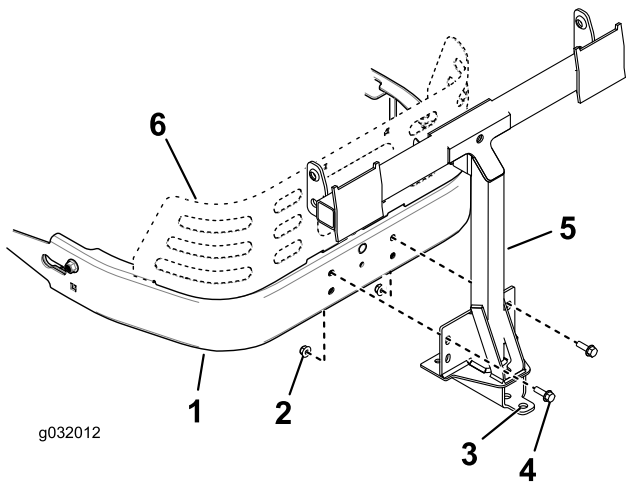

Figure 6
1. Install the pivot frame to the machine frame as shown in Figure 6. Secure the pivot frame to the machine frame using 2 bolts (5/16 x 1 inch) and 2 locknuts (5/16 inch).